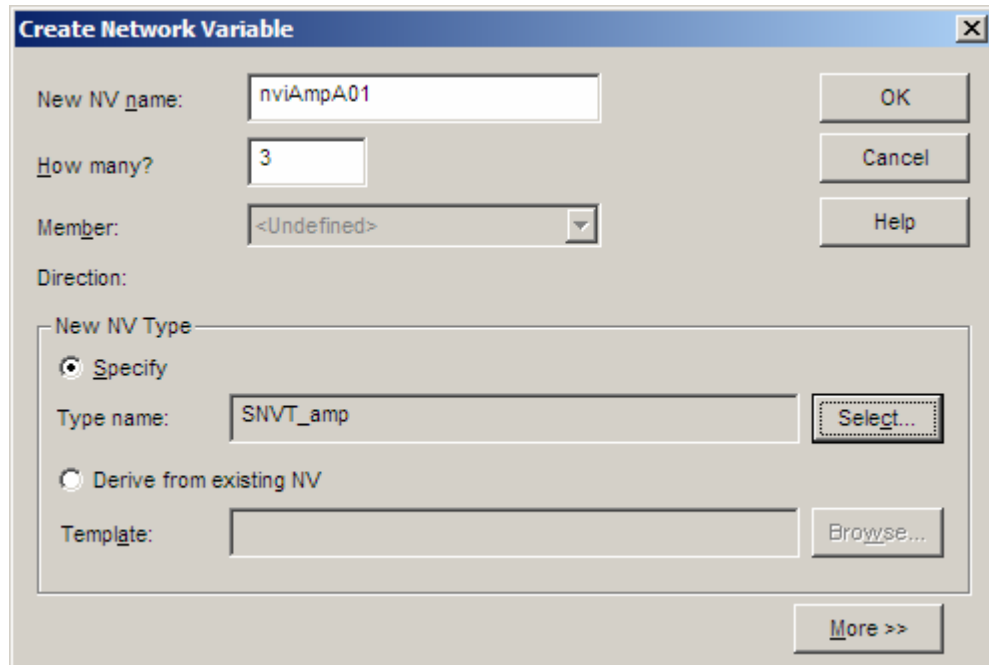

Figure 27. The LonMaker Create Network Variable Dialog for nviAmpA01
- vi. The Create Network Variable dialog should look similar to **Figure 27**.